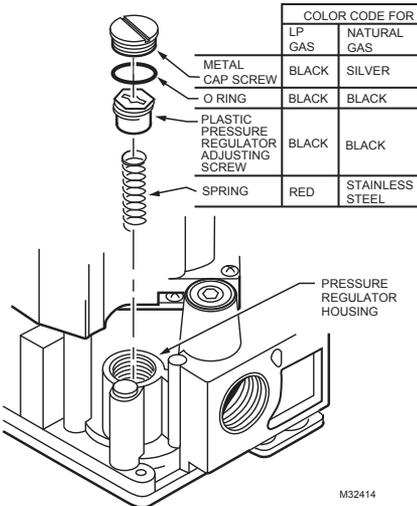

Fig. 4. Conversion kit installation in VR82xx, VR83xx, and SV9xx A, H, K, and M series of gas valves.
4. Insert the replacement spring. Refer to Fig. 4